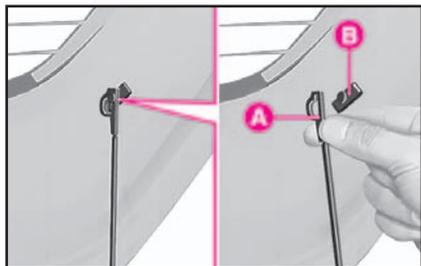

fig. 67
1) Remove the rear window shelf by releasing the two tie rod tips **A**-fig. 67 from their housings **B**.
When refitting the rear window shelf, fasten the two side tie-rods fig. 67 passing them on the outside of the struts.